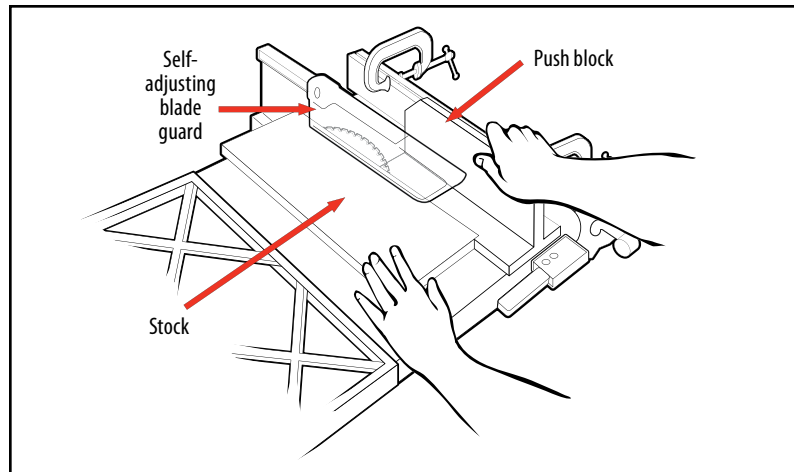

Figure 4.12. Typical table saw.
- Ripping and crosscutting – Enclose the portion of the saw above the table with a self-adjusting guard as shown in Figure 4.12. The guard must adjust to the thickness of the material being cut and remain in contact with it. The guard should be hinged so it can be easily moved away for saw changes.